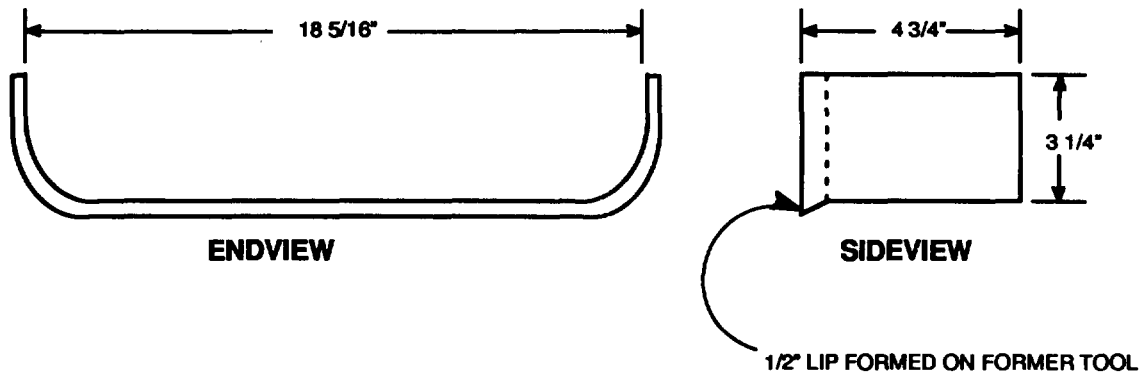

Figure 2. Doubler Dimensions
- f. Mark from both ends of metal sheet approximately 3 1/4 inches. Roll ends of metal sheet in roller in dimensions shown in Figure 2.